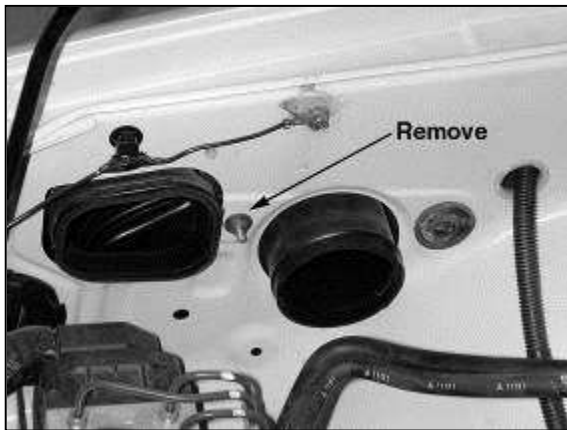

Fig. 5
- h. Remove the nut holding the resonator box to the inner fender. **(Fig. 5)**